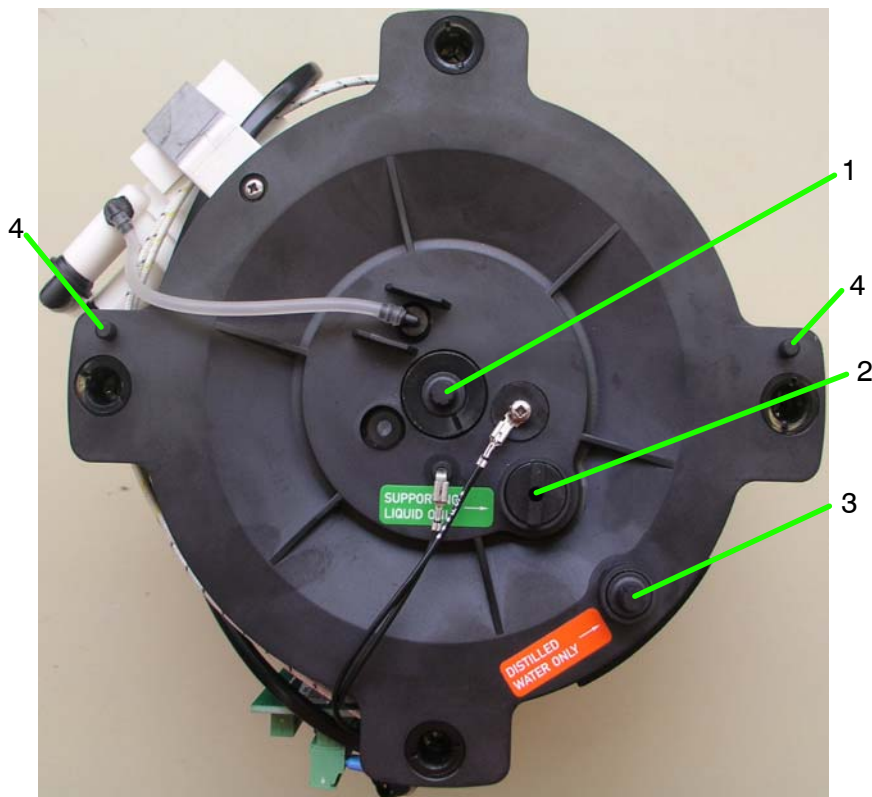

Figure 67: Dismantled outer sphere (overhead view)
(see Figure 67)
- Remove the ventilation screw (Figure 67/1) to vent the system
- Remove the supporting liquid screw (Figure 67/2) so that the supporting liquid can be poured out
- Remove the distilled water screw (Figure 67/3), so that the distilled water can be poured out. Remove the remaining distilled water from the outer sphere with the injector.
- Check the liquid level at the measuring cone (Figure 67/1).
- Pay attention to the two locking pins (Figure 67/4) on the closure.